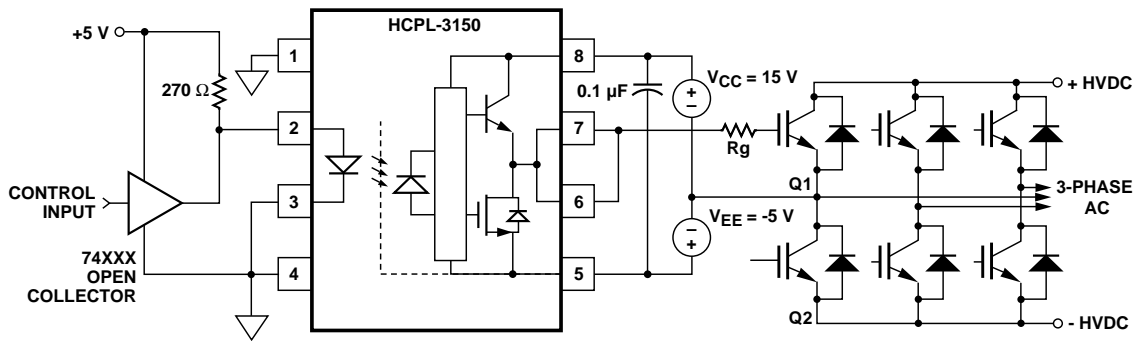

Figure 26. HCPL-3150 Typical Application Circuit with Negative IGBT Gate Drive.
**Step 1: Calculate Rg Minimum From the IOL Peak Specification.** The IGBT and Rg in Figure 26 can be analyzed as a simple RC circuit with a voltage supplied by the HCPL-3150.
For the circuit in Figure 26 with  $I_F$  (worst case) = 16 mA, Rg = 30.5  $\Omega$ , Max Duty Cycle = 80%, Qg = 500 nC, f = 20 kHz and  $T_A$  max = 90°C: